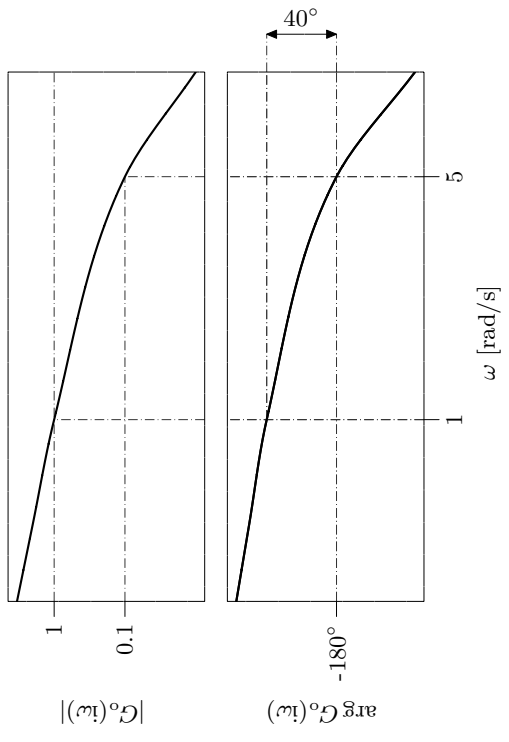

Figure 5.8b
- $G_1$  has a Bode plot according to the plot in Figure 5.8b. Determine for what values of the time delay  $T$  the closed loop system is stable.